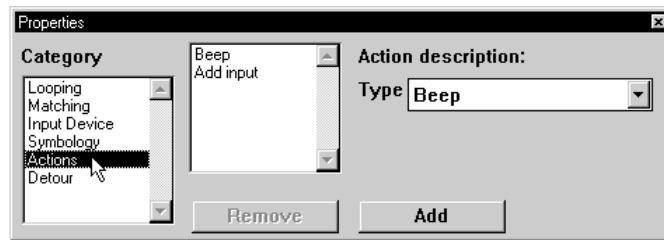

Figure 4-15 Properties Window - Action Category
17. At the **Properties** window click **Action** in the **Category** list (Figure 4-15).